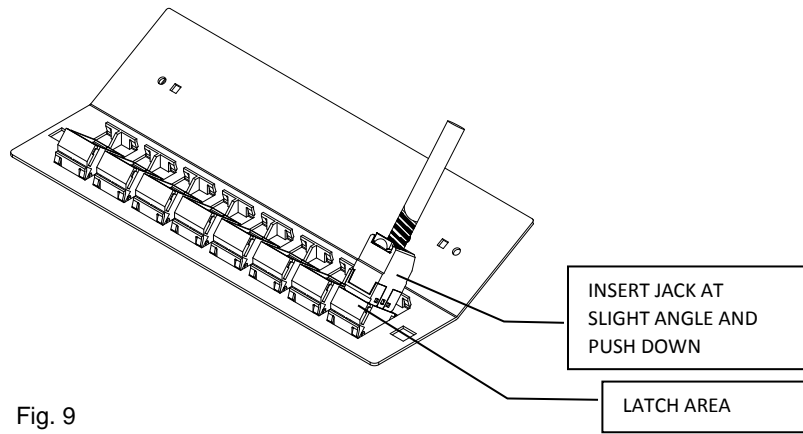

Fig. 9
2. Slide in jack into module port opening at slight angle (see Fig. 9)
4. Snap jack into module fascia by pushing down on top of jack (see Fig. 9)